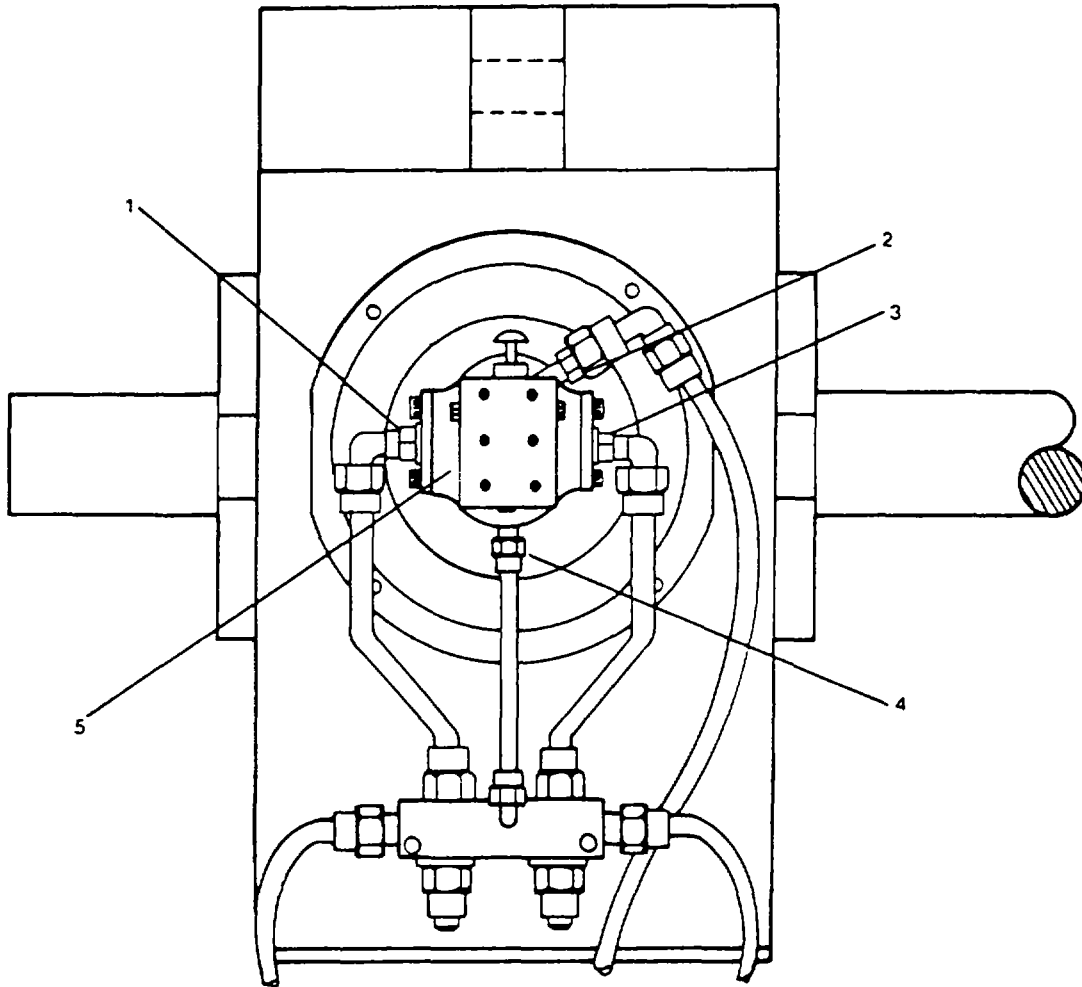

FIGURE 2-6. Hydraulic Motor Assembly.
(1) Connect failsafe brake pressure line connector (5).
(2) Connect hydraulic hose connectors (3 and 8).
(3) Connect hydraulic line connectors (1 and 2).
**2-15. Replace Hydraulic Motor Assembly. (Figure 2-6)**